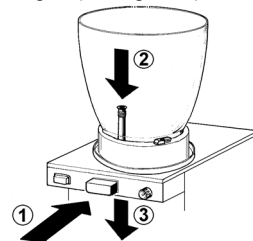

figure 3
Lightly pull (3) the pinch tube end downwards till it is well arranged (see figure 3).